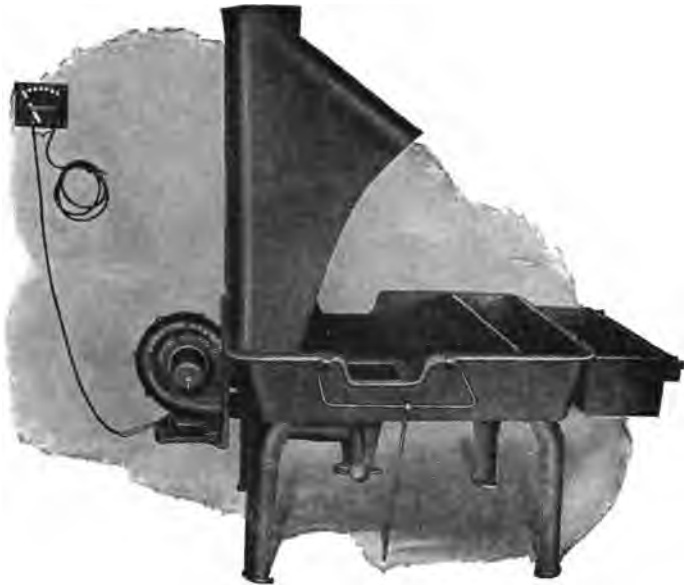

Fig. 49. Modern Motor-Driven Forge
**Forging Equipment.** *Forges.* Many of the jobs in a repair shop require the use of a forge, two kinds being necessary for all well-equipped shops. Forging and welding are easily cared for by the power-driven blower forge, Fig. 49. This type of forge is made of steel and the medium size is best for automobile repair shop work. For brazing, melting babbitt metal, hardening, tempering, annealing, and heating soldering irons, it is best to use a gas forge that takes its air from the tank of the air-compressor outfit and its gas from the regular city or town mains. Portable gasoline forges, Fig. 50, are obtainable and work equally well. It is well to have also a small hand torch, Fig. 51, for use in smaller brazing or soldering jobs.